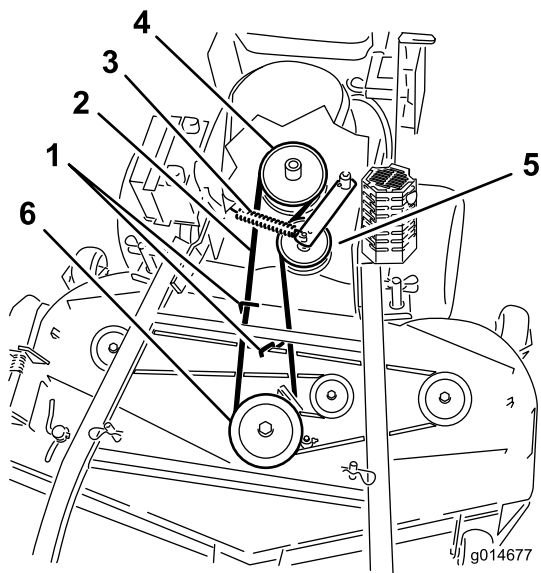

Figure 52
6. Roll the belt off the center pulley on the mower deck (Figure 52).
7. Remove the belt from the engine pulley and the spring loaded idler pulley (Figure 52).
8. Install the new belt onto the engine pulley and spring loaded idler pulley (Figure 52).
9. Roll the belt onto the center pulley on the mower deck (Figure 52).
11. Adjust the belt guide an 3 mm (1/8 inch) from the belt for 48 inch mower decks (Figure 52).